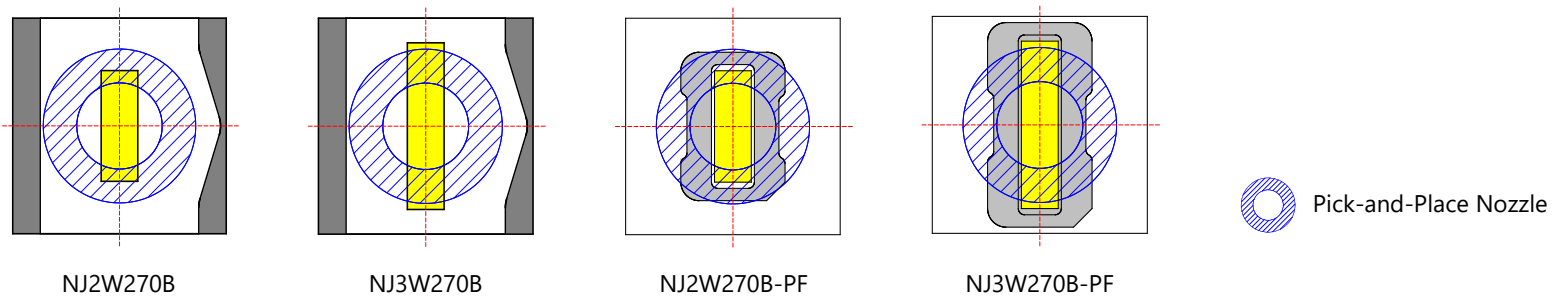

Figure 3. Examples of Recommended Nozzle Dimensions and LED Pick-up Positions for the Nichia 270B Series LEDs
2. When setting the LED pick-up position, ensure that the center of the nozzle and the center of the emitting area of the LED are aligned (See Figure 3). Do not apply excessive force to the emitting area when picking up the LED.